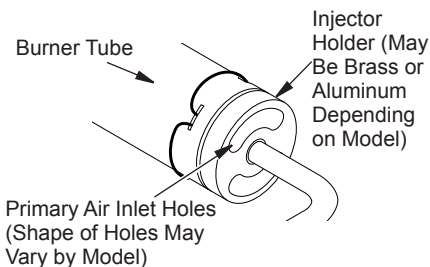

Figure 29 - Injector Holder On Outlet Burner Tube
3. Inspect burner, pilot and primary air inlet holes on injector holder for dust and dirt (see Figures 29 and 30).